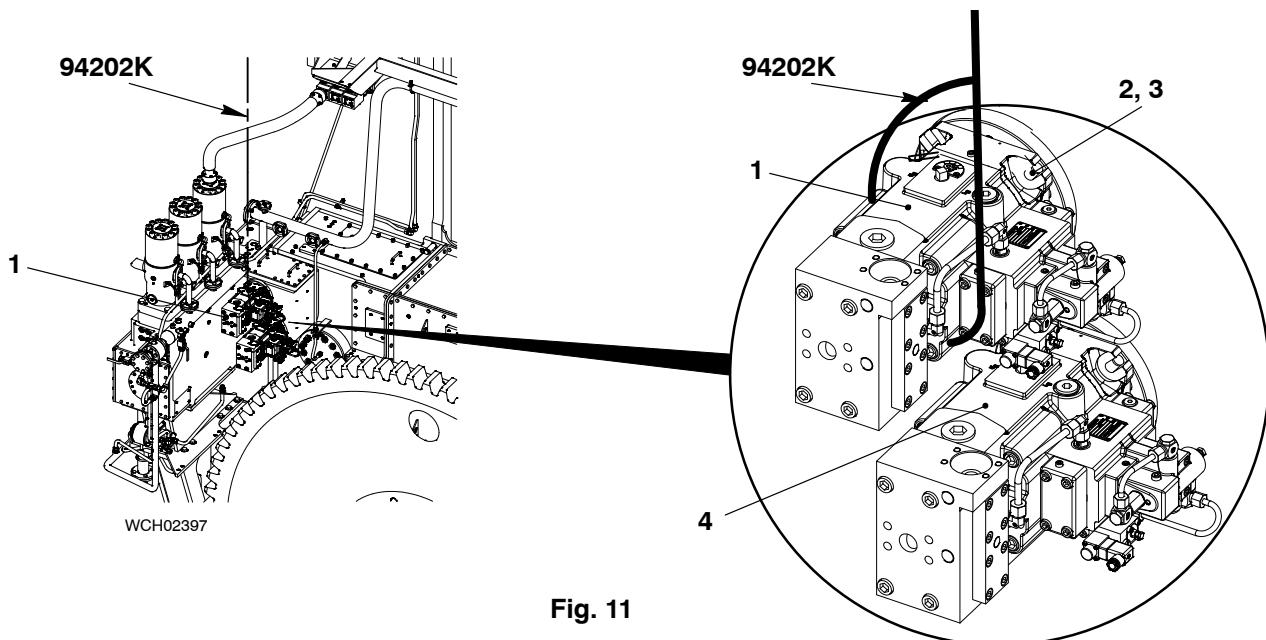

Fig. 11
- 3) Put the sling (94202K, Fig 11) around the servo oil pump (1) two times.
- 5) Use the engine room crane to put the servo oil pump (4) in position.
- 6) Attach the servo oil pump (4) to the casing with the four washers (3) and nuts(2).